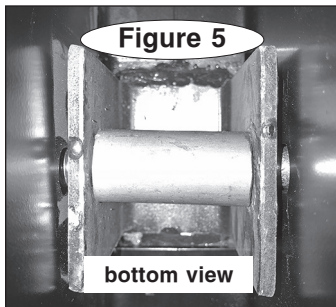

Figure 5
a. Insert one of the included 2" pipe spacers between the flanges of the center equalizer hanger (Figure 5).